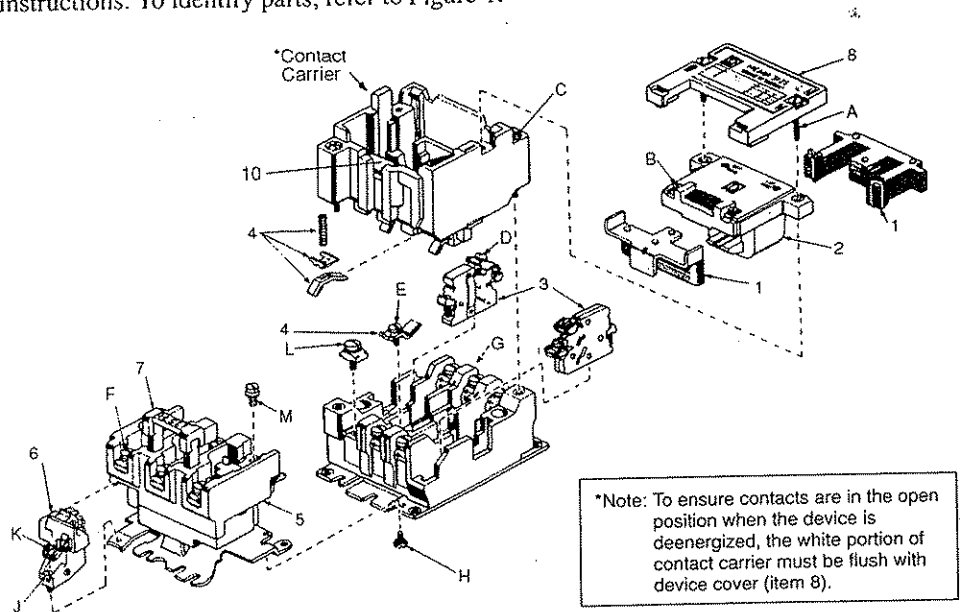

Figure 1 Contactor and Starter Assembly Drawing
This instruction bulletin illustrates and describes Class 8502 and 8536 two- and three-pole magnetic contactors and starters. It also contains assembly, modification and parts ordering instructions. To identify parts, refer to Figure 1.
A melting alloy overload relay is supplied as standard with provisions for three thermal units. The contact unit (item 6 of Figure 1 on page 1) of the melting alloy overload relay is available with a normally-open or normally-closed isolated alarm contact in addition to the standard normally-closed contact. The contact unit with alarm circuit contacts can be installed in the field (refer to Table 5 on page 4).
It is unnecessary to remove any wiring to inspect or replace the contacts. To inspect or replace contacts, loosen the two captive screws (item C in Figure 1) holding the contact actuator to the contact block. Lift the contact actuator to expose the contacts.
To remove the coil, loosen the two captive cover screws (item A in Figure 1). Disconnect wires from the coil terminals and remove the cover. Remove and disassemble the magnet, coil and armature unit.
Figure 1 on page 1 shows how contactors and starters are assembled. Factory recommended torques for mechanical, electrical and pressure wire connections are listed in Table 2 and the device instruction sheet. These torques must be followed to ensure proper device operation.